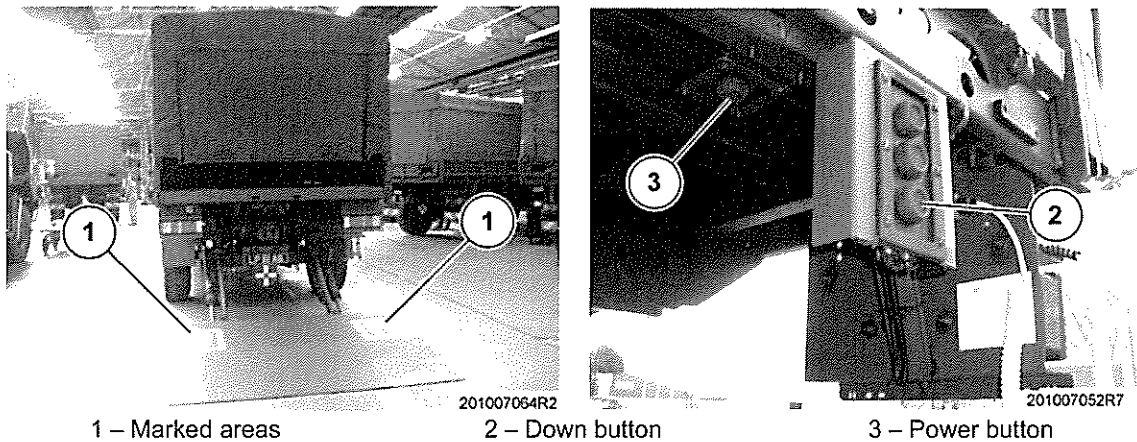

Fig 5 Lower the tail lift platform
4 Refer to Fig 5. When you stand on the tail lift platform and use the remote control, make sure that you stand in one of the marked areas (1).